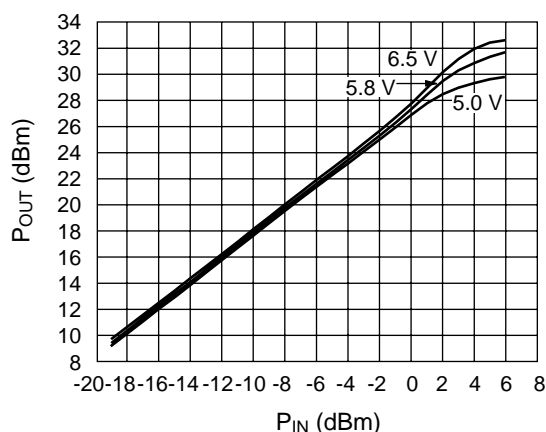

Figure 3.  $P_{OUT}$  vs.  $P_{IN}$  Over Drain Voltage
3. Performance in Figures 3, 4 and 7 is with a 1.88 GHz CW input signal.